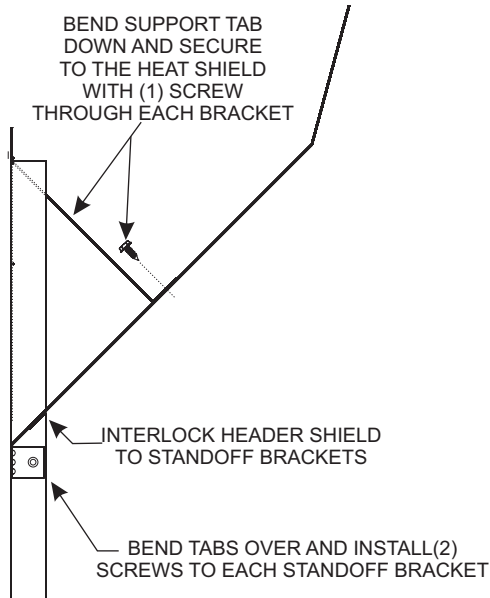

**Figure 24**
3. Secure the four framing brackets and hand bend them into a V shape as shown in **Figure 24**. Secure with #10 x 1/2-inch hex-head screws.
4. Locate the nailing flanges on the sides of the fireplace (two each side). **See Figure 24.**